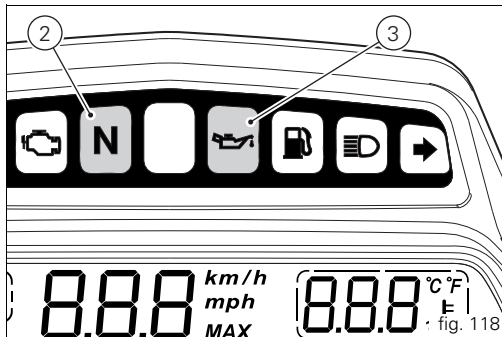

fig. 118
After this control, only the green light (2, fig. 118) and the red light  (3) must remain on.